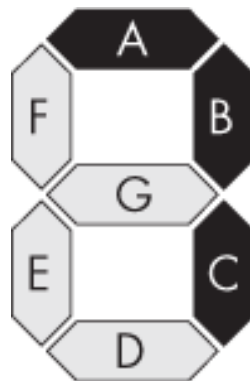

Figure 8-6: Illuminating a 7 on a seven- segment display
This module takes a 4-bit binary input **①** and uses seven outputs to light up the appropriate segments in the display, given the input. The case statement **②** captures all possible inputs, from 0000 to 1111 (0 through 15), and translates each number into the correct output pattern using the 7-bit `r_Hex_Encoding` register. Each bit in the register maps to one of the segments in the display: bit 6 maps to segment A, bit 5 maps to segment B, and so on. To see how this works, let's consider a specific input—say, 0111, which is the digit 7—as an example. Figure 8-6 illustrates how to illuminate a seven-segment display to show this digit.